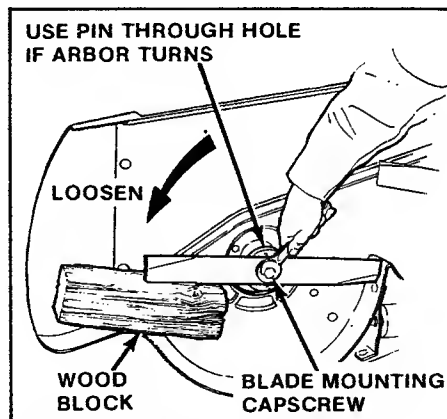

Figure 16. Removing Blade
2. Position the mower as in figure 16.
4. To remove the blade for sharpening, use a wooden block to hold blade while removing the capscrow (figure 16). Position the wrench as shown so that your hand will not fall onto the blade cutting edge if wrench slippage occurs.